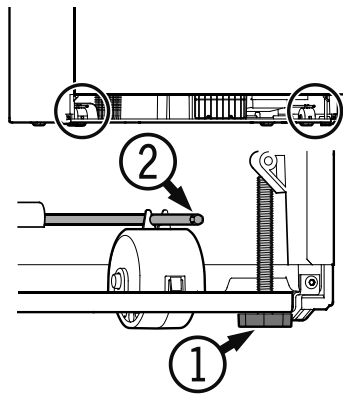

Figure 19
Leveling the Appliance - Figure 19
To prevent the appliance from tipping forward the leveling feet (1) (Figure 19) must have contact with the floor.